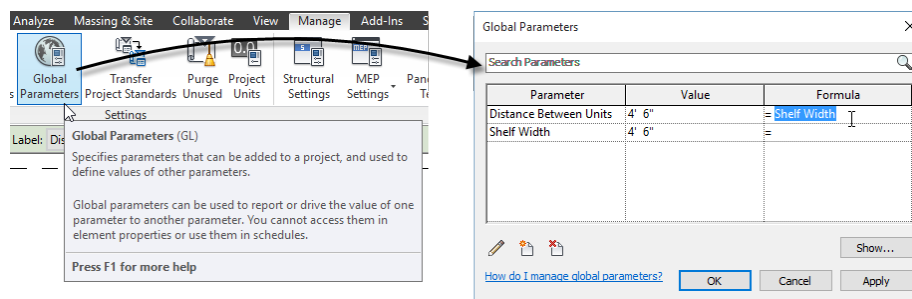

Figure 47
10. Click OK to finish (see Figure 47).